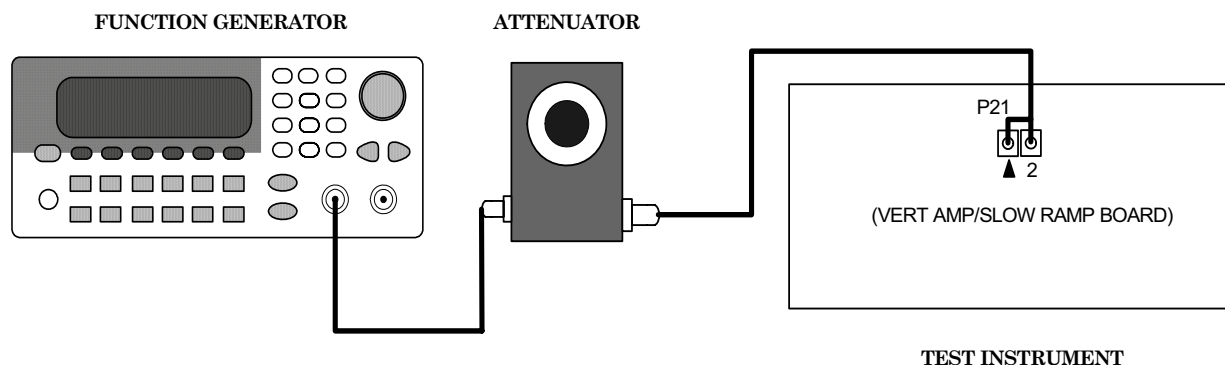

Figure 1. Vertical attenuation and gain - equipment setup.
- (a) **RET LOSS (dB) (SENSITIVITY (DB))** switch and **FINE** controls to **0 dB**.
- (2) Disconnect P21 from VERT AMP/SLOW RAMP BOARD (fig. 1) (located directly behind center of front panel on left side of board) and connect equipment as shown in figure 1.